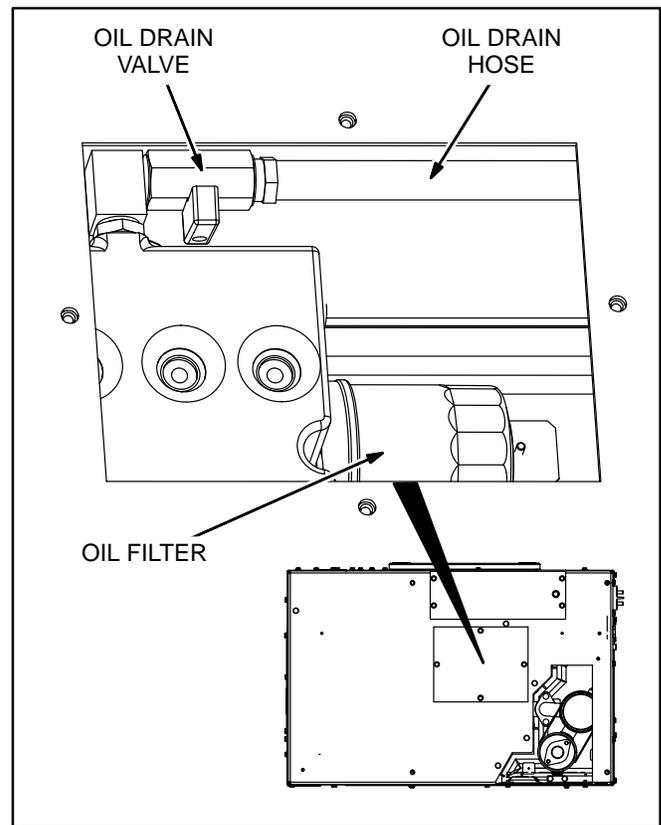

FIGURE 10. OIL DRAIN PLUG AND OIL FILTER
3. Remove the bottom access cover (Figure 10) and direct the end of the drain hose into a container.